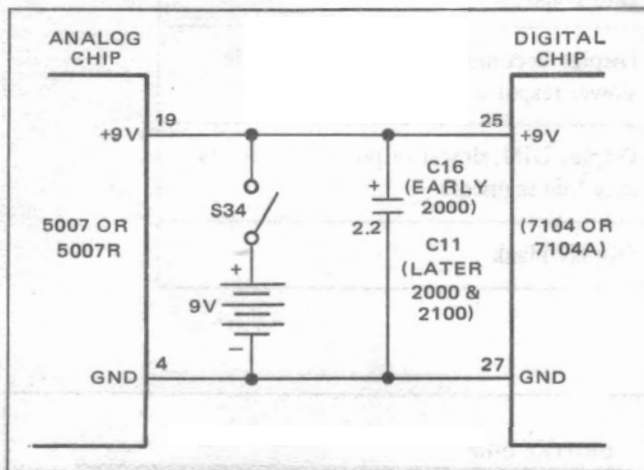

Figure 4.1 - Danameter Battery Interconnection Diagram
4.1.1 The first consideration in analyzing a Danameter malfunction of any production generation is that the voltage from the battery is present on pin 19 of the analog chip, (pin 25, digital chip) referenced to pin 4, analog chip, (pin 27, digital chip). See Figure 4.1.